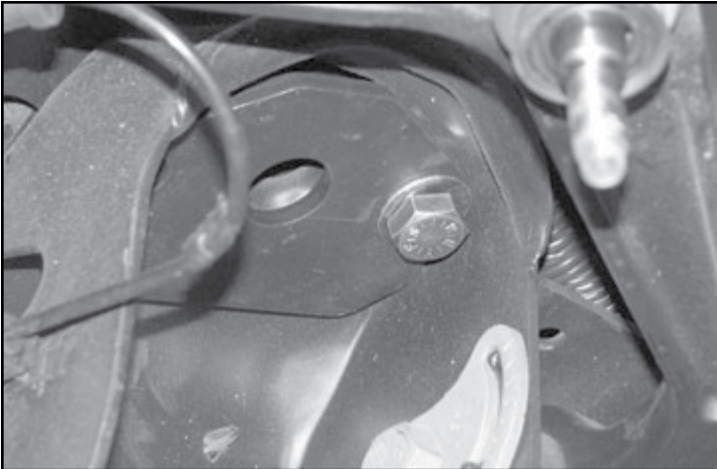

FIGURE 5
11. If installing Dirt Logic shocks, install the upper shock mount (FT20484) into the factory upper shock tower using the using two 9/16"-12 x 1-1/4", washers and lock nuts. If installing FTS6341 (stealth) without blue shaft seal install FT20740. If your FTS6341 has a blue shaft seal you do not have to install the FT20740. **SEE FIGURE 5**